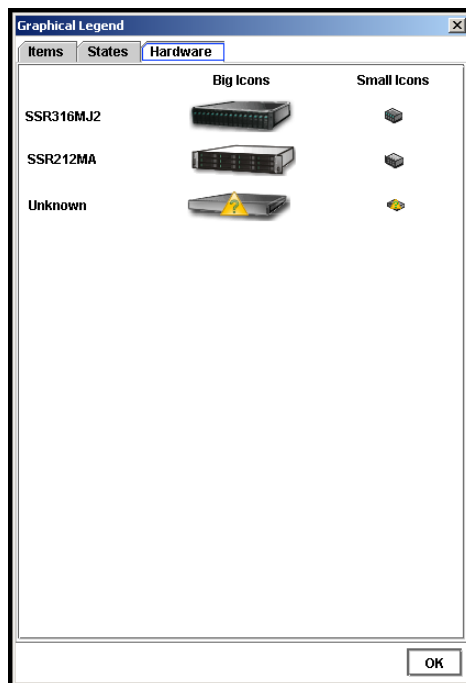

Figure 5. Graphical Legend Hardware Tab from the Help Menu
- The Hardware tab, shown in Figure 5, displays the icons that represent the physical storage units.